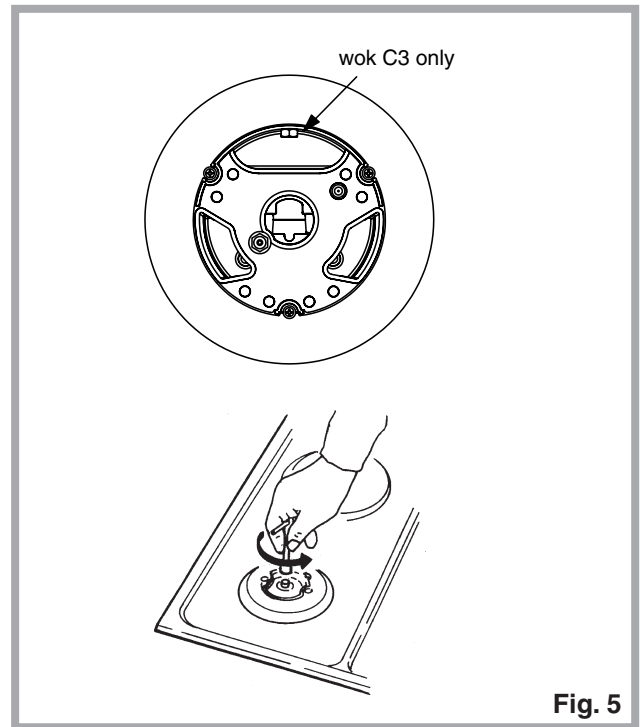

Fig. 5
### Adaptation to various types of gas (Fig. 5)
- replace the injectors (Fig. 5) with the corresponding type of gas to be used (see table “Uses characteristics”).